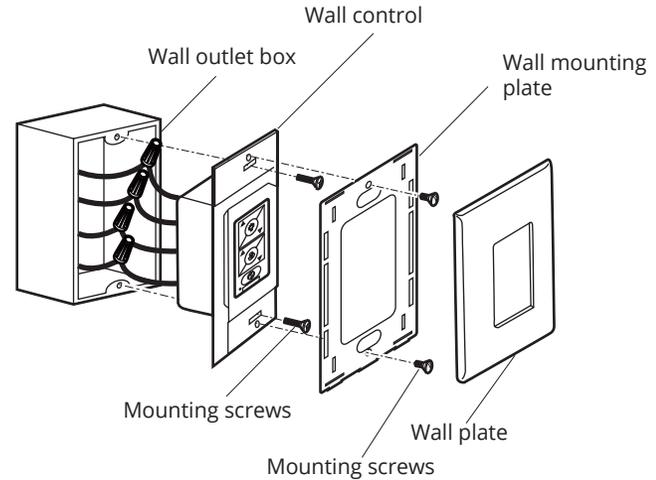

FIGURE 16
1. Carefully tuck the wire connections inside the junction box. Secure the wall control with the two wall control mounting screws provided. (Fig. 16)